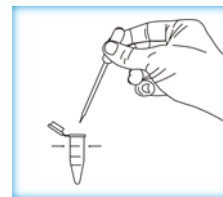

Figure 1
- e. Open sample vial cap and add 0.4ml of water sample using the disposable pipette (Figure 1).